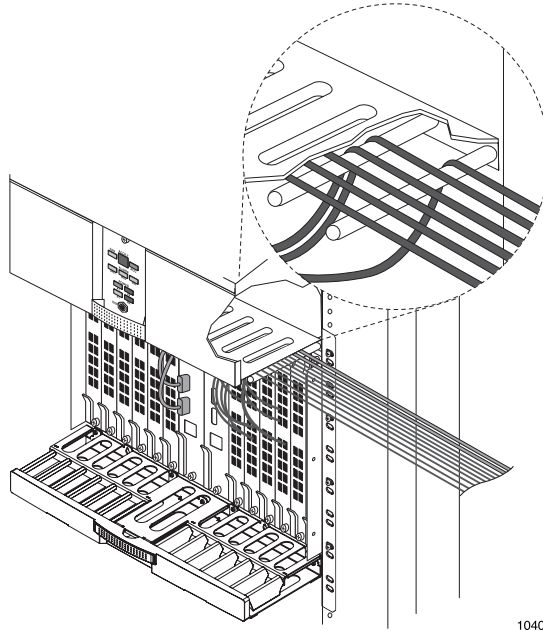

Figure 26 Copper Cable Routing
1. Connect and route the copper cables; see Figure 26